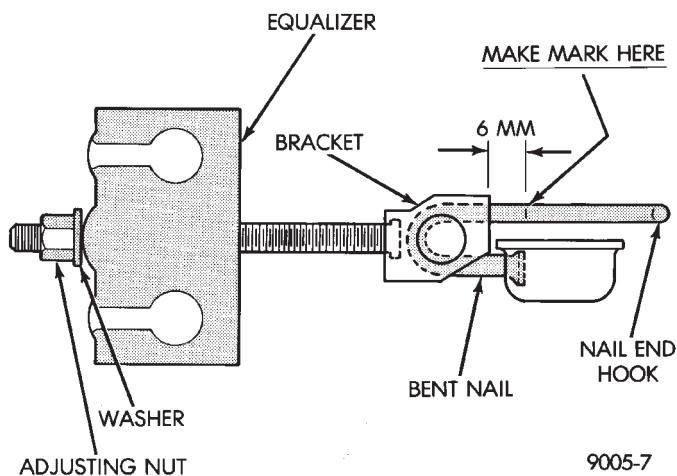
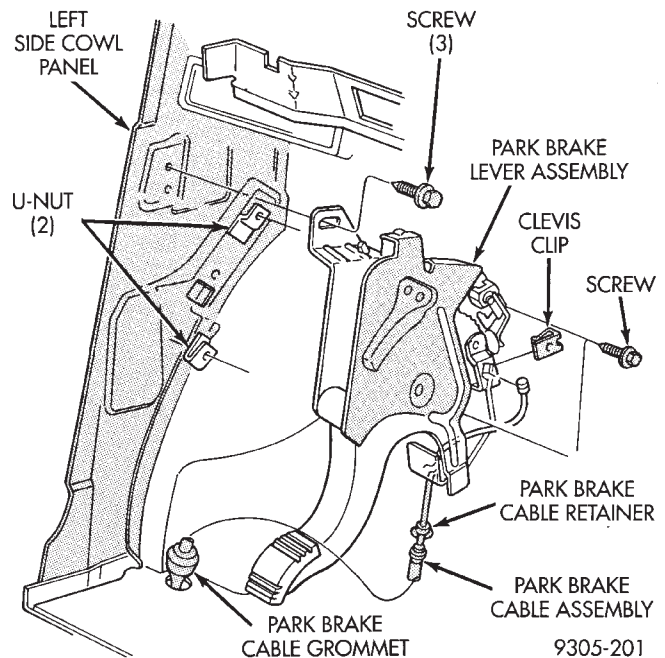

Fig. 2 Equalizer/Bent Nail Adjuster Assembly
Fig. 3 Parking Brake Pedal Remove And Install
- (2) Before loosening cable adjusting nut, clean threads with brush and lubricate with grease. Do not use a metal wire brush because it will scratch off plating and coating.
- (3) Release the parking brake pedal then back off cable adjusting nut so there is slack in the cable.
- (4) Push parking brake pedal all the way to the floor.
- (5) Mark bent nail adjuster approximately 6 mm (1/4 inch) from bracket (Fig. 2).
- (6) Tighten adjusting nut until mark moves into alignment with edge of bracket. **Important:** Replace bent nail with a new part if nail end hook has moved all the way to the bracket.
- (7) Replace plastic cover and tethered plug.
- (8) Apply and release the parking brake to see that the rear wheels rotate freely without dragging.
- (1) Loosen cable adjusting nut and disconnect front cable from adjuster (Fig. 2).
- (2) Remove sill molding/cowl side scuff panel and steering column cover. Increase access by removing fuse box, if required.
- (3) Disconnect the electrical connector for the brake light switch. Remove pedal assembly to body attaching bolts (Fig. 3).
- (4) Remove park brake cable to park brake pedal mechanism clevis clip (Fig. 3).
- (5) Remove front cable strand end from clevis. Tap cable housing end fitting out of assembly (Fig. 3).
- (1) Install cable retainer into pedal assembly bracket (Fig. 3).
- (2) Install cable into retainer and strand button into clevis (Fig. 3).
- (3) Bolt pedal assembly into place. Tighten pedal assembly attaching bolts to 28 N•m (250 in. lbs.). Install electrical connector for the brake light switch.
- (4) Install fuse box, steering column cover and sill molding/cowl side scuff panel.
- (5) Connect front cable and adjust parking brake (Fig. 2). See Adjusting Parking Brake in this section of the service manual for the correct adjusting procedure.
(1) Pass cable assembly through hole in floor from inside vehicle (Fig. 3).
(2) Install cable retainer into brake pedal assembly bracket and then install cable housing end fitting into retainer.
(3) Engage cable strand button into clevis.
(4) Install floor pan seal and floor mat.
(5) Insert brake cable and housing into anchor bracket making certain that housing retainer fingers lock the housing firmly into place.
(6) Install cable guide brackets.
(7) Assemble adjuster to front cable.
(8) Adjust parking brake.